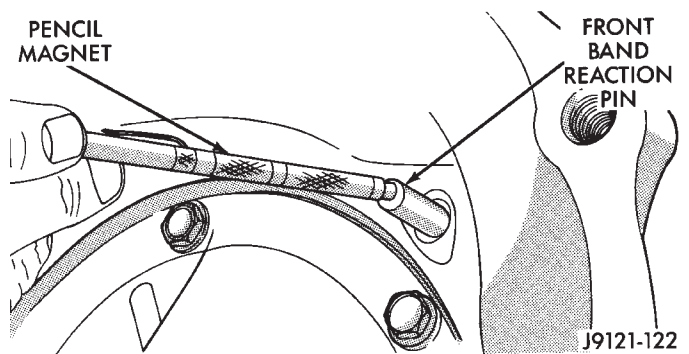

Fig. 12 Removing Front Band Reaction Pin
- (20) Remove front band reaction pin with pencil magnet. Pin is accessible from converter housing side of case (Fig. 12).